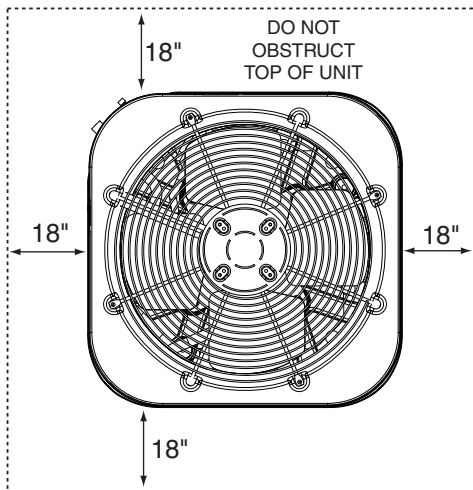

Figure 2. Clearance Requirements
- Sufficient clearance for unobstructed airflow through the outdoor coil must be maintained in order to achieve rated performance. See Figure 2 for minimum clearances to obstructions.
- Clearances must be in accordance with those shown in Figure 2.